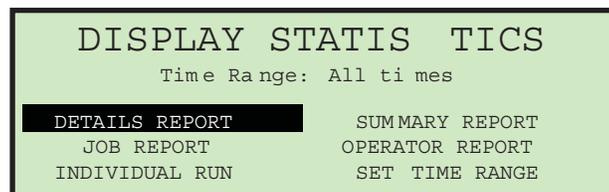

Figure 3-74: Supervisor level - Display Statistics menu
1. In the Supervisor level - Statistics Menu (Figure 3-73), select **DISPLAY DATA** and press **Enter**. The **DISPLAY STATISTICS** screen appears (Figure 3-74).